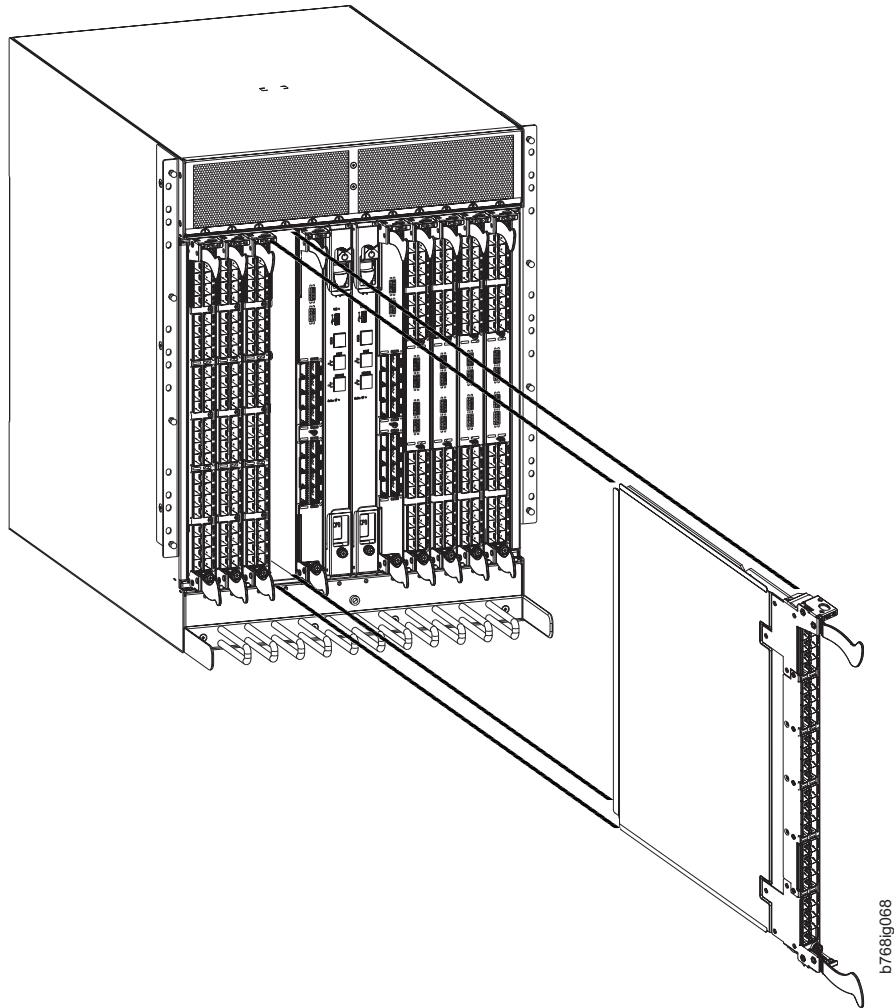

Figure 31. Port and application removal and installation (FC16-48 port blade shown as example)
8. Unscrew the two thumbscrews from the top and bottom ejectors on the blade (see Figure 31 on page 86) using the Phillips screwdriver. Unscrew the top thumbscrew until it pops out. This initiates a hot-swap request.
10. Open the ejectors by rotating them toward the center of the blade face. Pull the blade out of the chassis using the ejectors (Figure 31 on page 86).